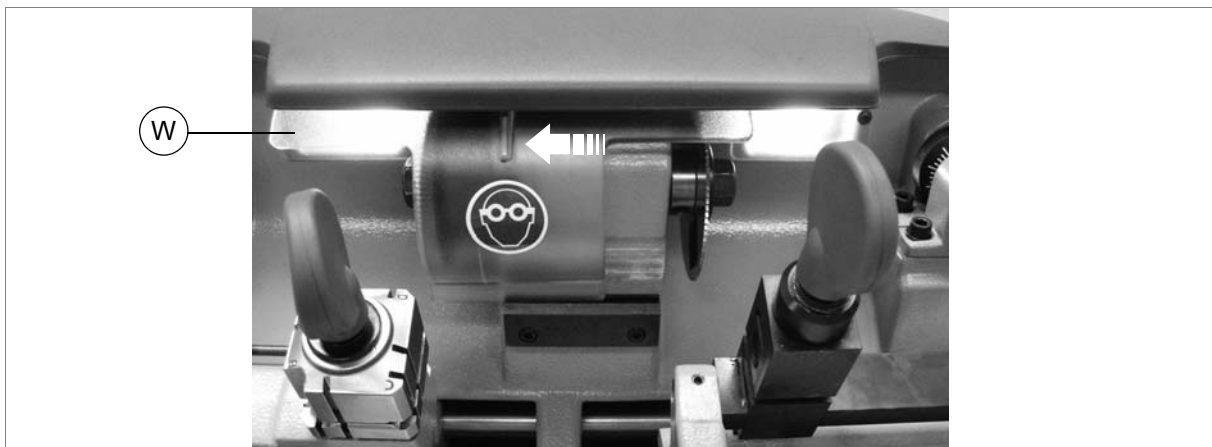

Fig. 14
- to operate the right-hand carriage, take shield (W) to the left (fig. 14)